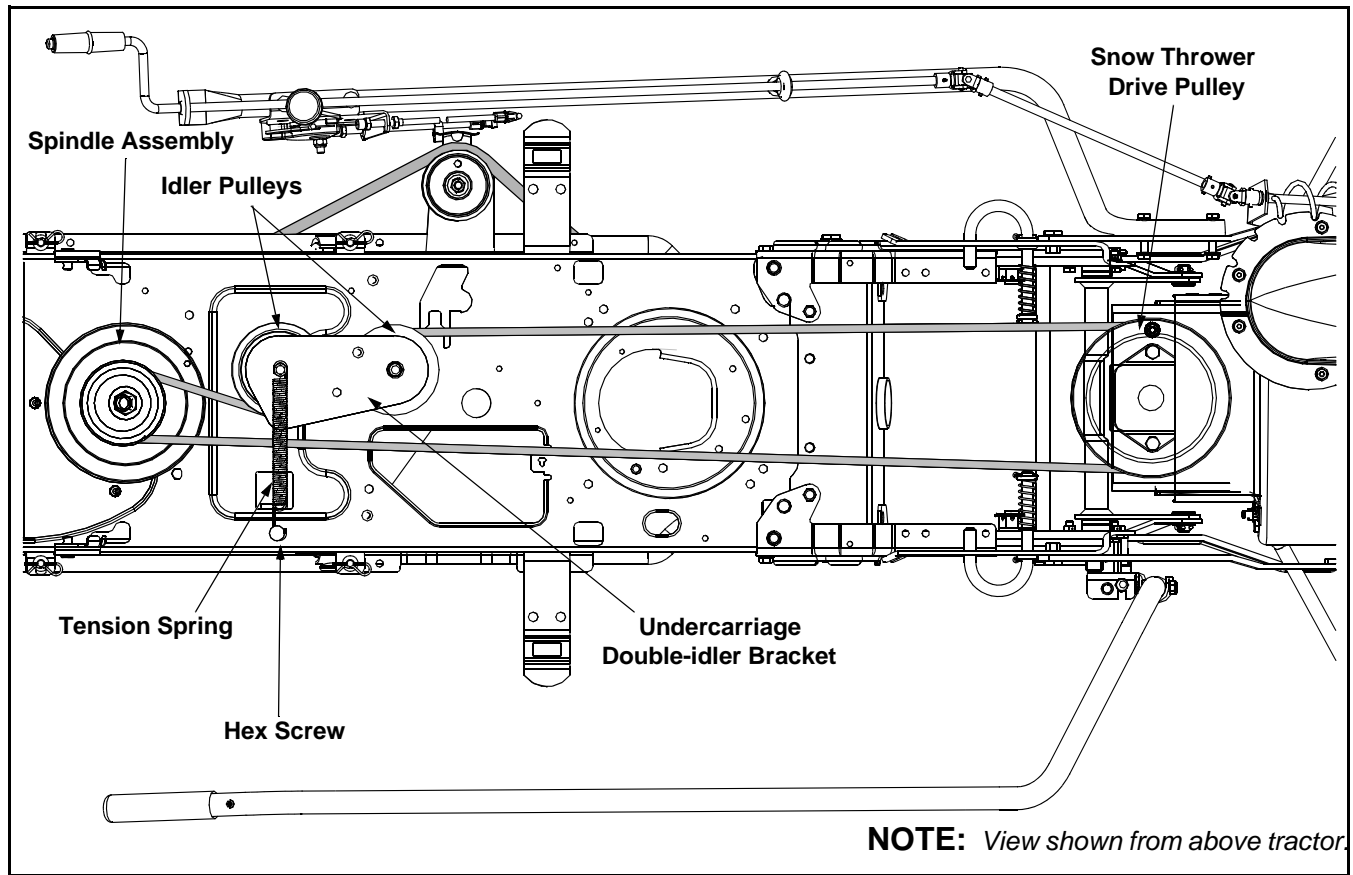

Figure 20
1. Attach and route the lower drive belt around the lower pulley on the spindle assembly, both pulleys on the double-idler bracket found beneath the undercarriage, and the drive pulley found on the rear of the snow thrower housing as illustrated in Figure 20.
2. Attach the tension spring (found on the undercarriage double-idler bracket) to the hex screw as shown in Figure 20 if it's not already attached.